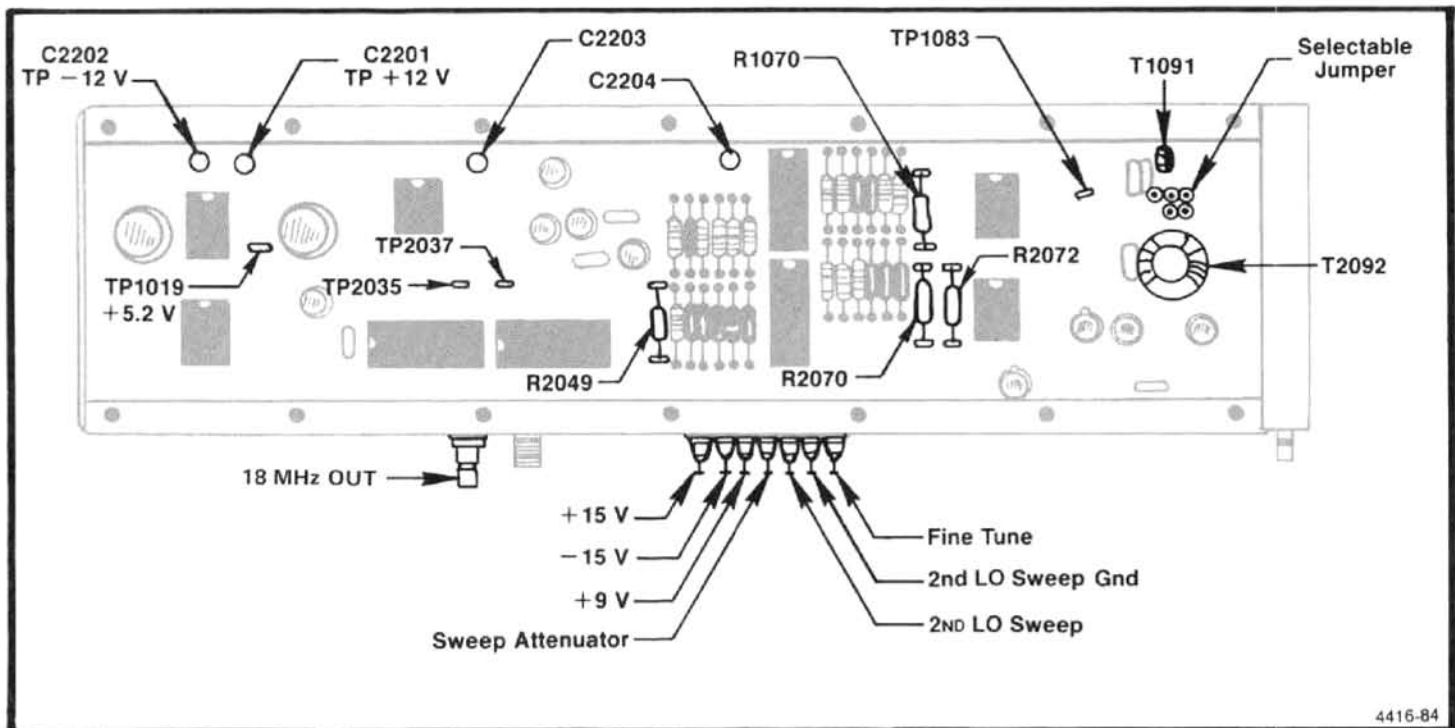
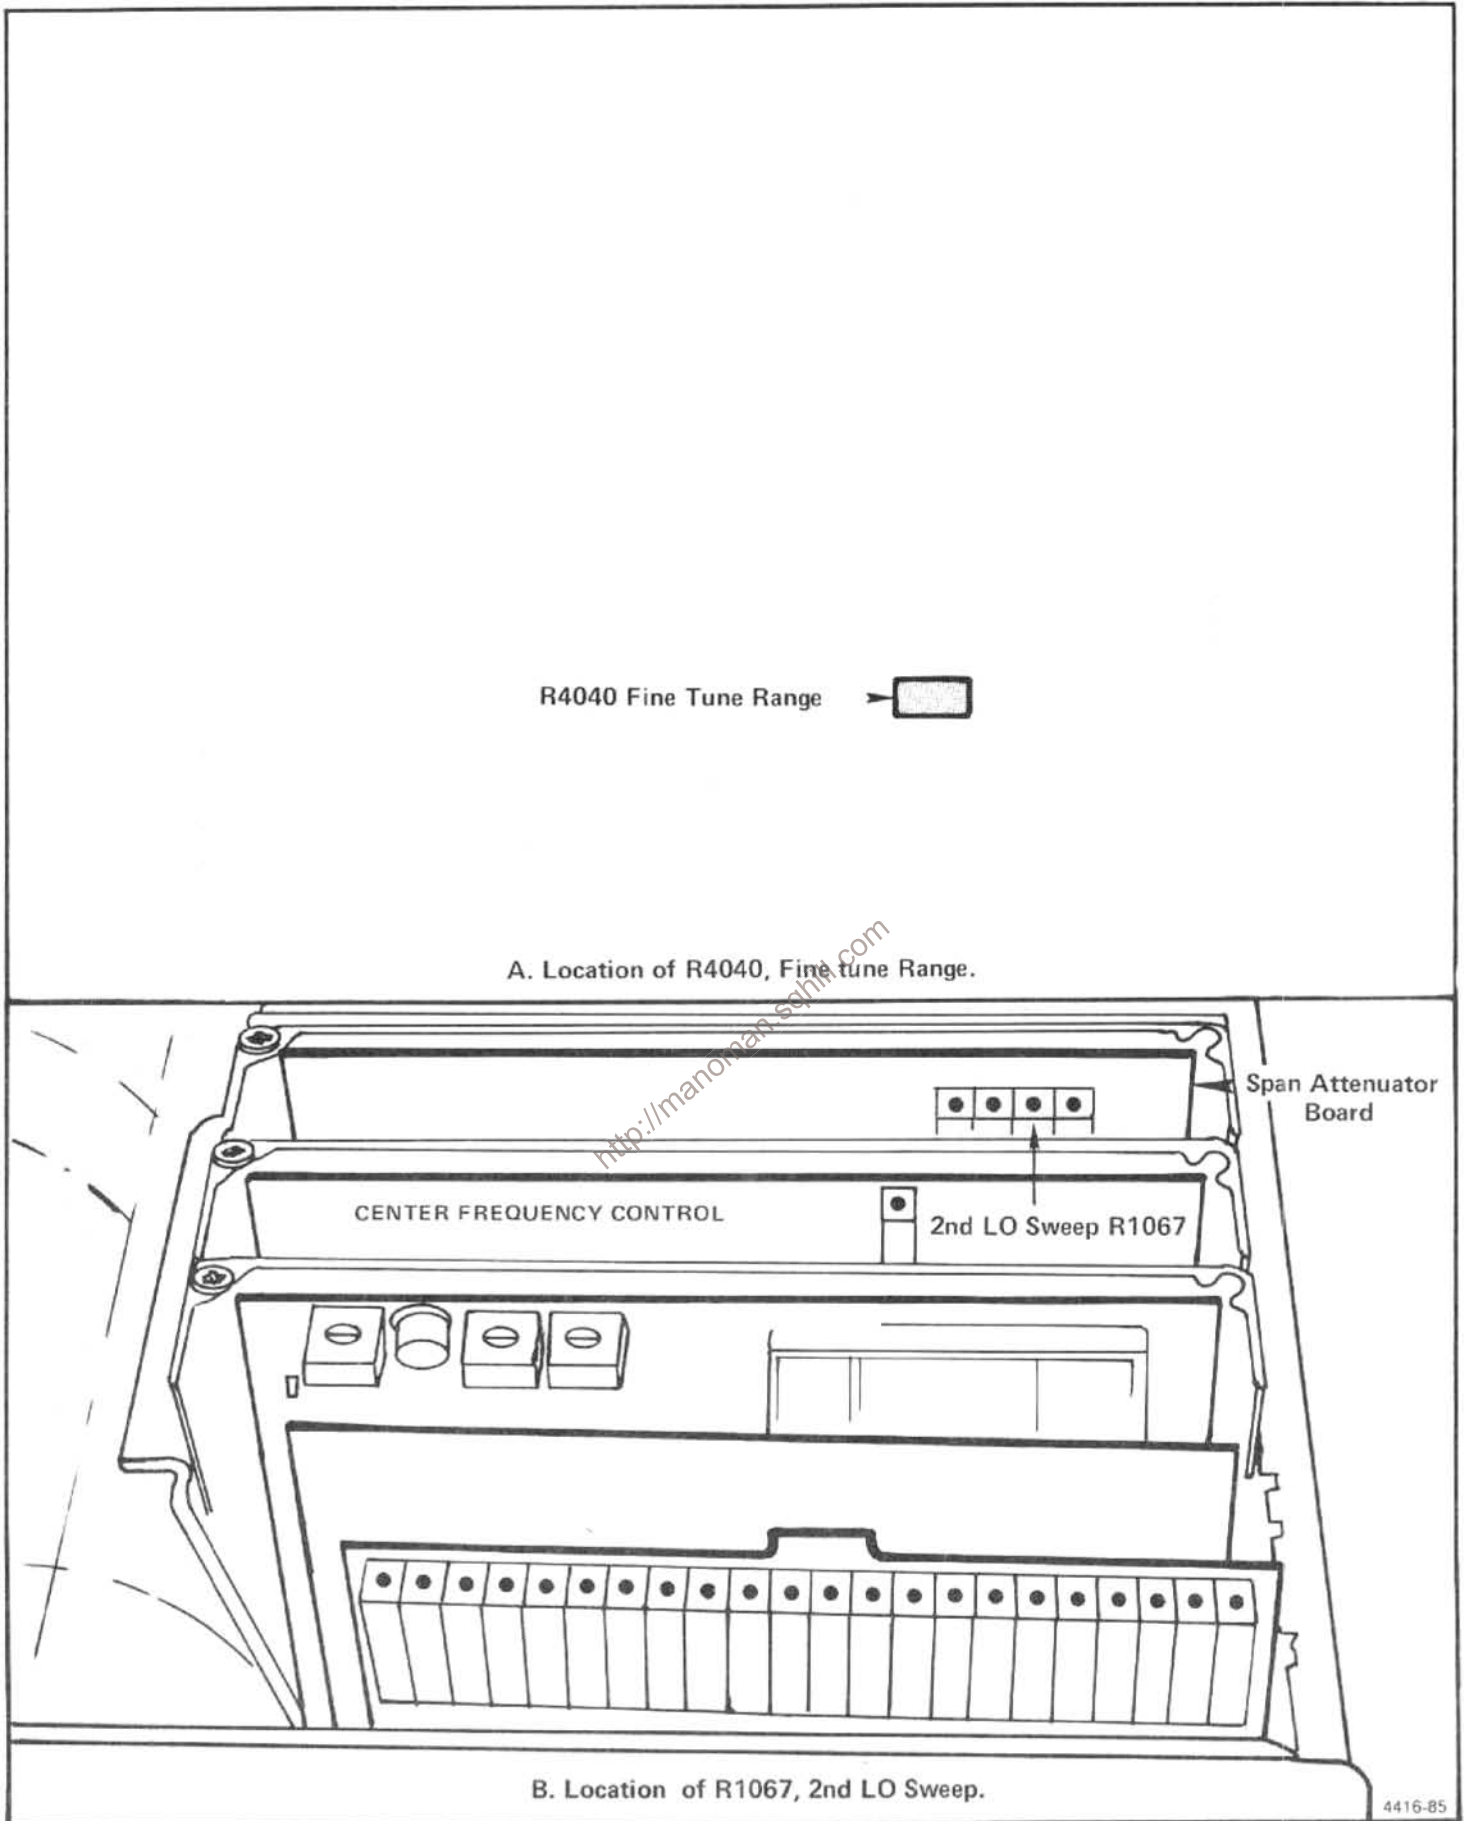

Figure 6-23. Test points and component location pertaining to calibrating the 16-20 MHz Phase Lock circuit for the 2182 MHz 2nd LO.
Figure 6-24. Location of R4040 on the CF Control board.
b. Remove the 14 screws that hold the cover on the mu-metal section and remove the cover. Unsolder the leads to feedthrough capacitors C2203 and C2204. (These are the center two feedthroughs that feed through the circuit board, as shown in Figure 6-23.)
d. Remove the mu-metal lid and reconnect the leads to feedthrough capacitors C2203 and C2204, on the Phase Lock board (Figure 6-23). Replace the lid and install the 14 screws. Tighten the screws from the center toward the corners of the lid to prevent gaps between the lid and the housing. Do not overtighten because the screws are easily stripped.
This side of the assembly contains the 16–20 MHz Phase Lock circuit board (see Figure 6-23). Replacing oscillator components in this section may alter sweep linearity and frequency of the 16–20 MHz oscillator. The following checks and calibration should aid in repairing and returning the assembly to satisfactory operation.
a. Check all input voltages at the feedthrough capacitors in the housing wall. Refer to Figure 6-23 or the data printed on the lid. Voltage at the sweep and tune input lines should equal $0\text{ V} \pm 0.05\text{ V}$ with the FREQ SPAN/DIV $\geq 500\text{ kHz}$.
c. Switch POWER on, then check the internal regulated voltages; $+12\text{ V} \pm 0.4\text{ V}$ at C2201, $-12\text{ V} \pm 0.4\text{ V}$ at C2202, and $+5.2\text{ V} \pm 0.25\text{ V}$ at TP1019 (see Figure 6-23). Check the output of the shaper at TP1083 for $0.0\text{ V} \pm 0.3\text{ V}$.
a. Center the Fine Tune adjustment R4040, on the Center Frequency Control board and the 2nd LO Sweep adjustment R1067, on the Span Attenuator board (Figure 6-24).
c. Press <SHIFT> INT to disable frequency correction; then press <SHIFT> READOUT and select frequency display of 2nd LO (2) from the menu. Readout will now indicate the 2nd LO frequency.
d. Tune the 2nd LO to one end of its range where the frequency readout no longer changes. Note the frequency and measure the voltage on the Tune Line at the input feed-through capacitor (Figure 6-23).
g. If the frequency/volt change is low, decrease the value of select resistor R2072 and increase the value of R2070 (Figure 6-23). Keep the ratio of R2072 and R2070 the same. If the frequency/volt change is high, increase R2072 and decrease R2070.
c. Adjust the 2nd LO Sweep R1067, on the Span Attenuator board (Figure 6-24), so the comb lines on opposite sides of the screen, are exactly 8 major divisions apart.
1) A shaper diode or resistor may be defective if the comb line spacing is consistent for part of the tuning range and 30 kHz or more off for the other parts of the sweep. To test the diodes for forward conduction, tune to the low end of the range and short R2049 (Figure 6-23). The output of U1073A (pin 1) should equal about +3 V. U1059 diodes B through G and U2059 diodes A through F should all have a 0.48 V forward drop. Use a floating or digital voltmeter to check the drop.